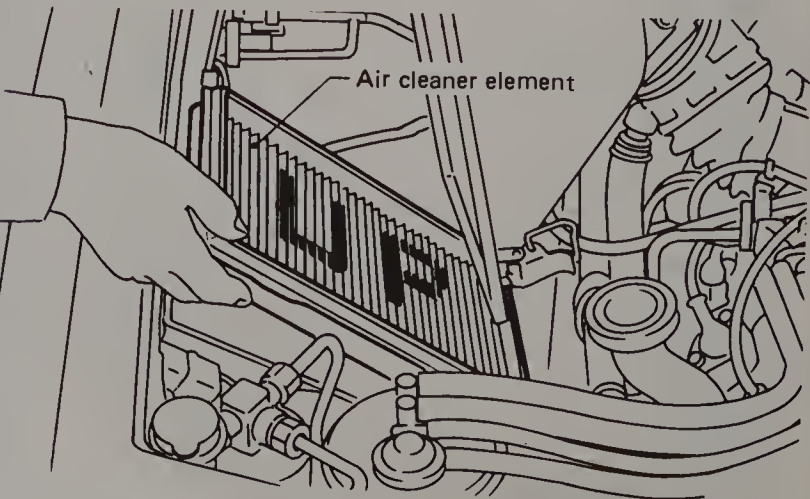

Fig. 13.2 Make sure the air filter element is installed with the marked side facing up (fuel-injected models) (Sec 4)
- 3 Position the new element in the housing with the side marked UP visible (Fig. 13.2).